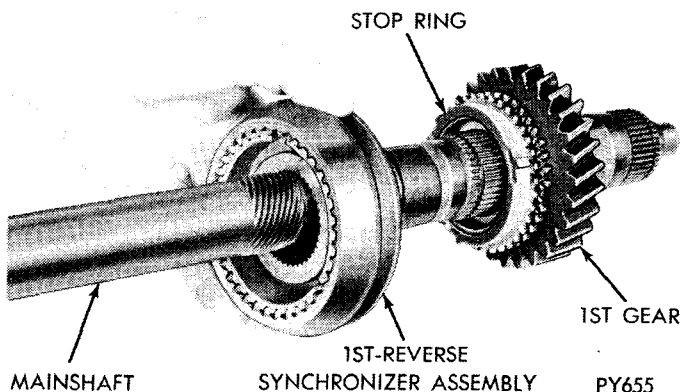

Fig. 23—Removal or Installation—1st-Reverse Synchronizer Assembly
(9) Slide 1st-Reverse synchronizer assembly off splines and remove from mainshaft (Fig. 23).
(15) Slide 1st-Reverse synchronizer assembly over mainshaft, indexing the hub slots to 1st gear stop ring lugs (Fig. 23).